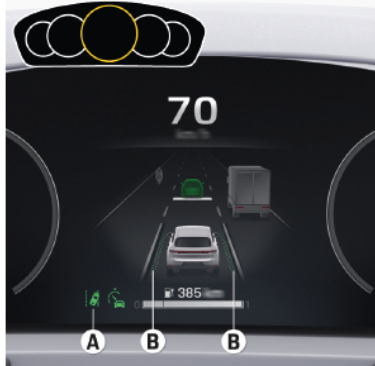

Fig. 146: Drive Assist display
- Press and hold the **S** (Fig. 146) button on the control lever.
- ➔ Lane Keep Assist is switched off. The corresponding symbol (Fig. 146) appears in the instrument cluster.
- Press button **S** (Fig. 146) on the control lever.
- ➔ Lane Keep Assist is switched on and active. The symbol **A** (Fig. 146) is displayed on the instrument cluster.